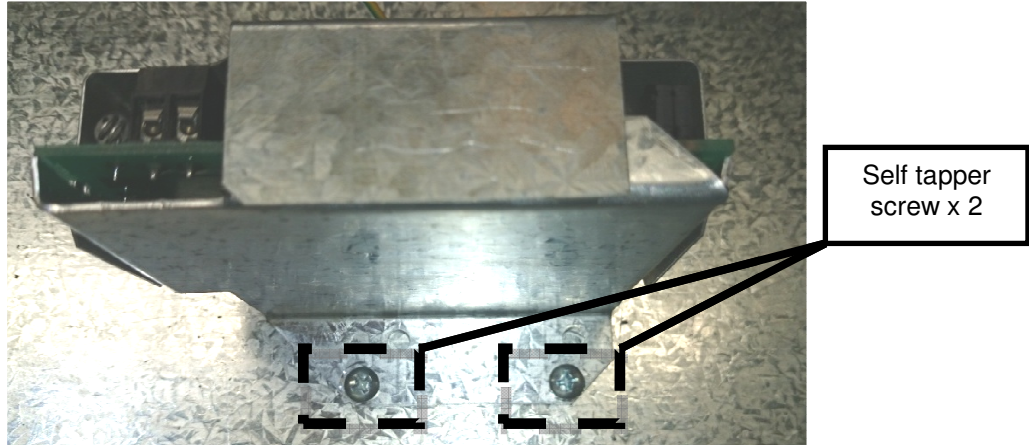

Figure 7
3. Secure 539 Interface Board to the controls tray using screws provided, as shown in Figure 7.